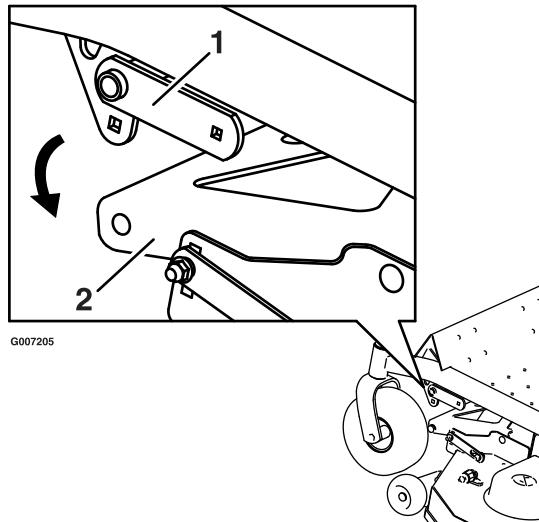
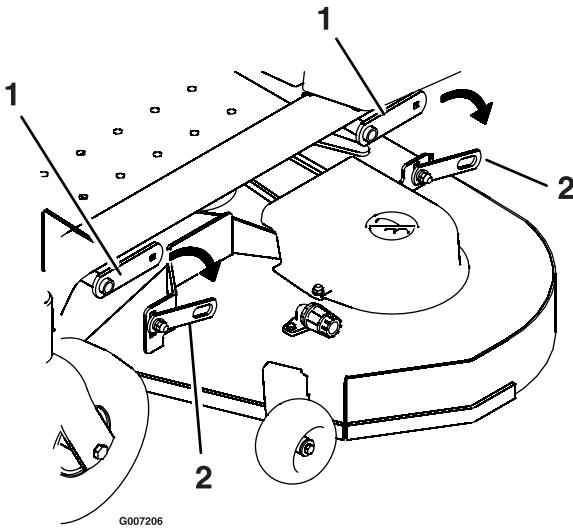

Figure 47
Figure 48
4. Remove the hardware from the deck hanger and deck lift arm on both sides of the deck (Figure 47).
5. Remove the nut, bolt, and pivot bushing from the deck strut (Figure 47). Carefully lower the front of the mower deck to the ground (Figure 48).
5. Use the existing hardware to attach the rear deck strut of the mower to the deck lift arm (Figure 48).
6. Attach the hardware from the deck hanger and deck lift arm on both sides of the deck (Figure 47).